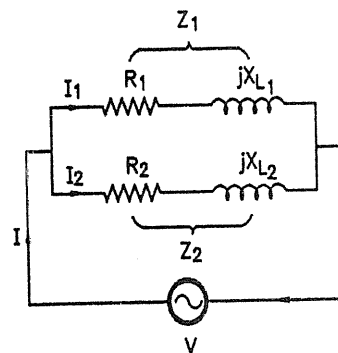

FIG. 2.67 : PARALLEL CIRCUIT
- Consider the Fig. 2.67 where two impedances Z_1 and Z_2 are connected in parallel. The potential difference across them is same.